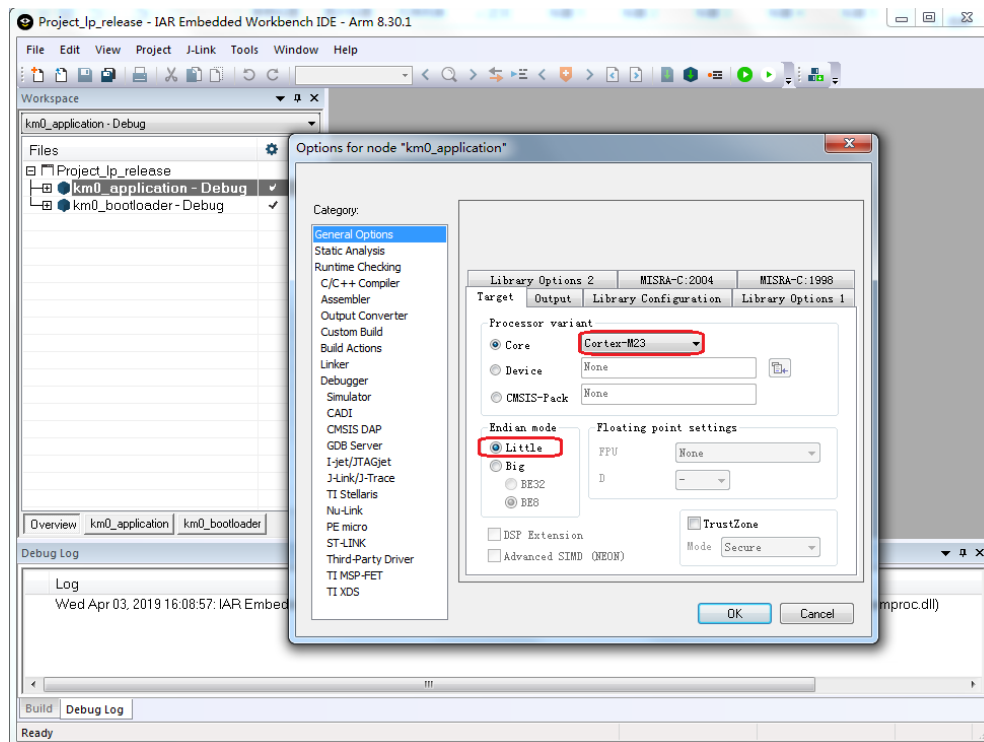

Fig 6-7 KM0 processor options
- (1) Open **project\realtek\_amebaD\_va0\_example\EWARM-RELEASE\Project\_lp\_release.eww**.
- (2) Make sure km0\_bootloader and km0\_application are in Workspace. Click **Project > Options, General Options > Target > Processor Variant > Core**, verify the CPU configurations according to Fig 6-7.